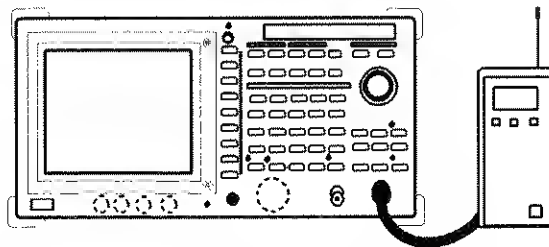

Figure 2-88 Setup for Measuring the Total Power
1. Connect the unit as shown in Figure 2-88.